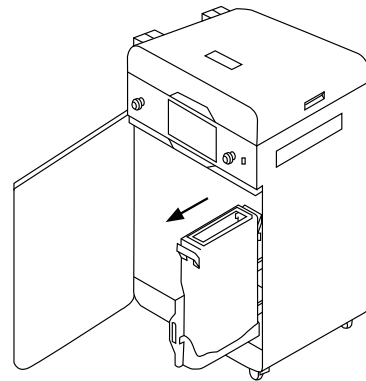

Fig. 9.6 Sliding out the overflow container.
4. Slide out the overflow container (fig. 9.6).